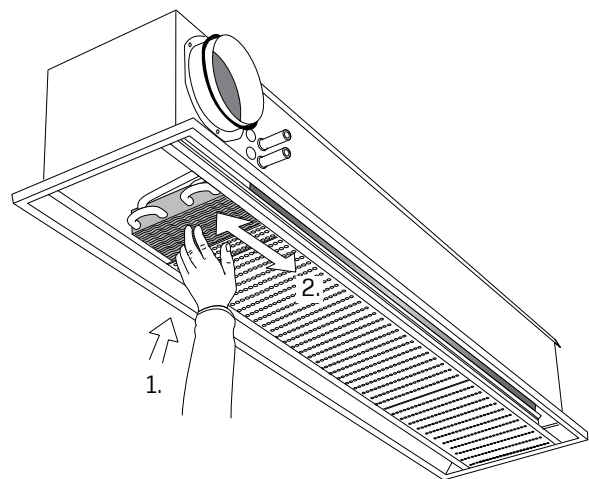

FIGURE 11
- 2) Open the cover to access the coil. (See **FIGURE 11**)